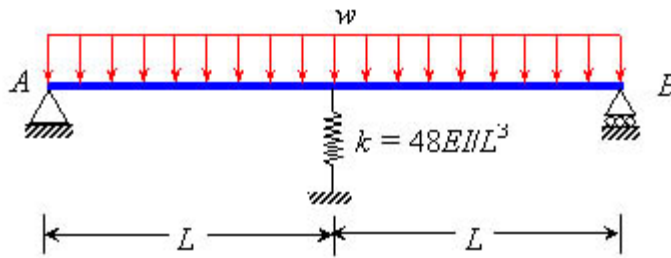

Figure T5.4
**T5.4** Determine the force in the spring of the beam shown in Figure T5.4.